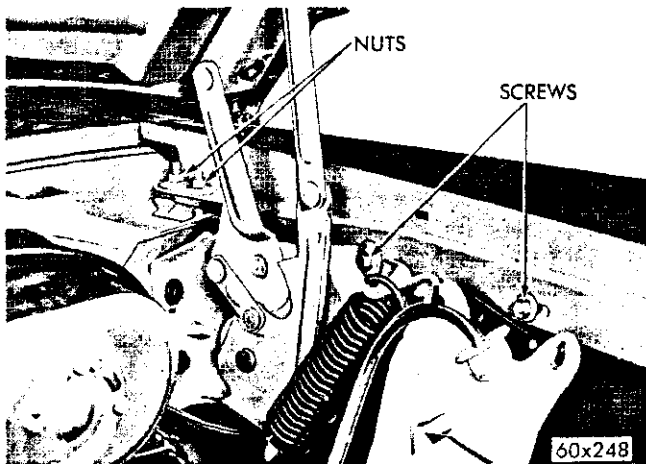

Fig. 6—Fender to Cowl Mounting
- (6) Remove the upper nuts and studs (two at each side) attaching the fender to the cowl panel (Fig. 6).